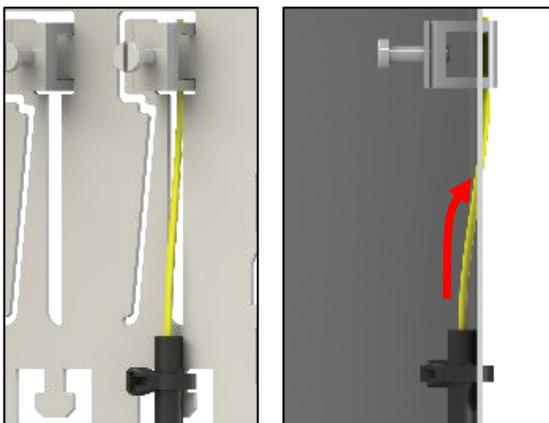

Fig. 22 Illustration without bundled loose tube fibres
- Feed the core of fibre cable through the opening on the rear of the rear panel and secure it with the clamping yoke screw (1). **Note:** see Fig. 22.
- Fasten the optical fibre mini cables / air cables (5) to the rear panel with cable ties (6).
- Bundle the protective tubes / corrugated hose / bundled loose tube fibres using guide rings (2) and route them via the cable diverter to the fibre tray level.